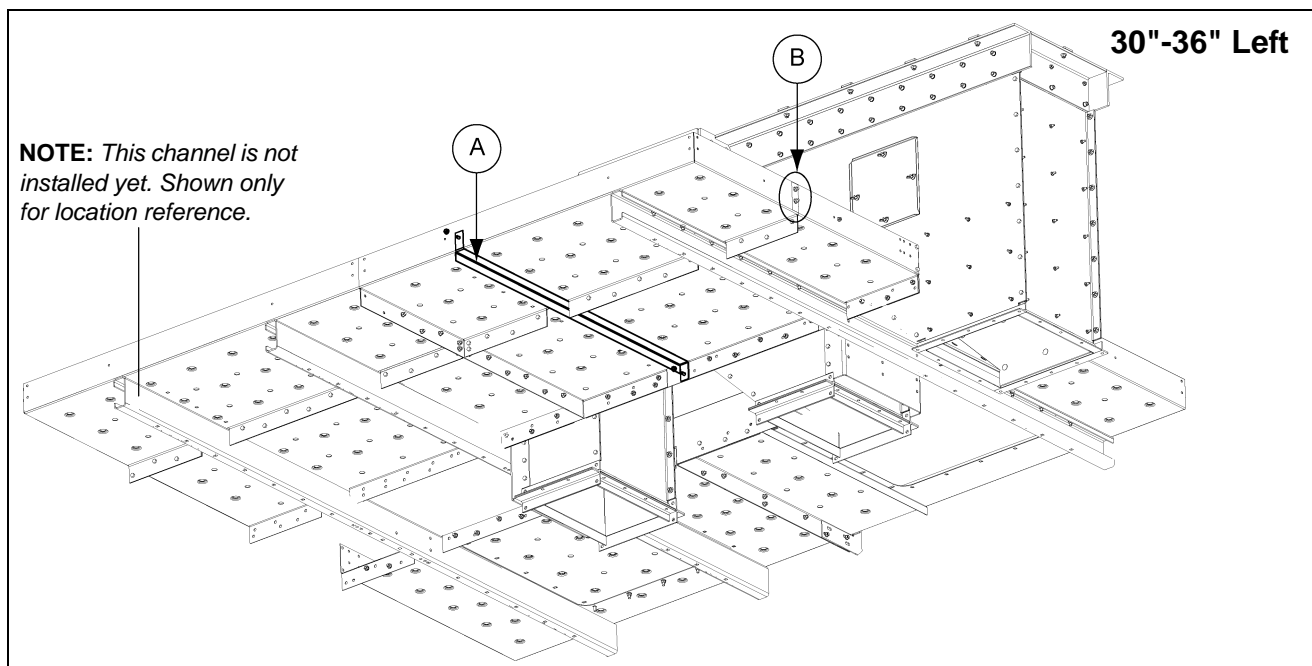

Figure 9N
7. Install the head platform hatch deck support (HP1648HDS) (A) under Deck C and Deck F using 3/8" x 3/4" bolt (S-7105) and nut. *(See Figure 9N.)* **NOTE:** You may need to remove a bolt from the toe board if one was installed in this location.